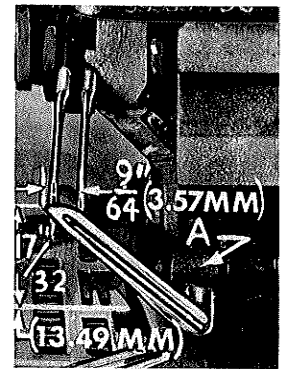

Fig. 10
Next, turn the handwheel until the upper looper is at the left end of its travel. On Style 39500 QW, check dimensions of upper looper point with respect to the RIGHT needle and throat plate (Fig. 10). Looper point should be  $\frac{9}{64}$  inch (3.57 mm) to the left of centerline of RIGHT needle and  $\frac{17}{32}$  inch (13.49 mm) above throat plate (Fig. 10). On Styles 39500 RG and RH, check dimensions of upper looper point with respect to the LEFT needle and throat plate. Looper point should be  $\frac{3}{16}$  inch (4.76 mm) to the left of centerline of LEFT needle and  $\frac{39}{64}$  inch (15.48 mm) above throat plate.
If resetting is necessary, do it by moving the upper looper holder (A, Fig. 10). NOTE: Figure 10 represents the correct dimensional settings for Style 39500 QW only.
If it becomes necessary to move looper thread pull-off (AF), be sure to take up all end play in needle drive shaft before tightening. If upper looper is located so that it is higher over throat plate than recommended in (Fig. 10), the purl will tend to form near the top edge. If upper looper is too low, the purl will form nearer the bottom edge.